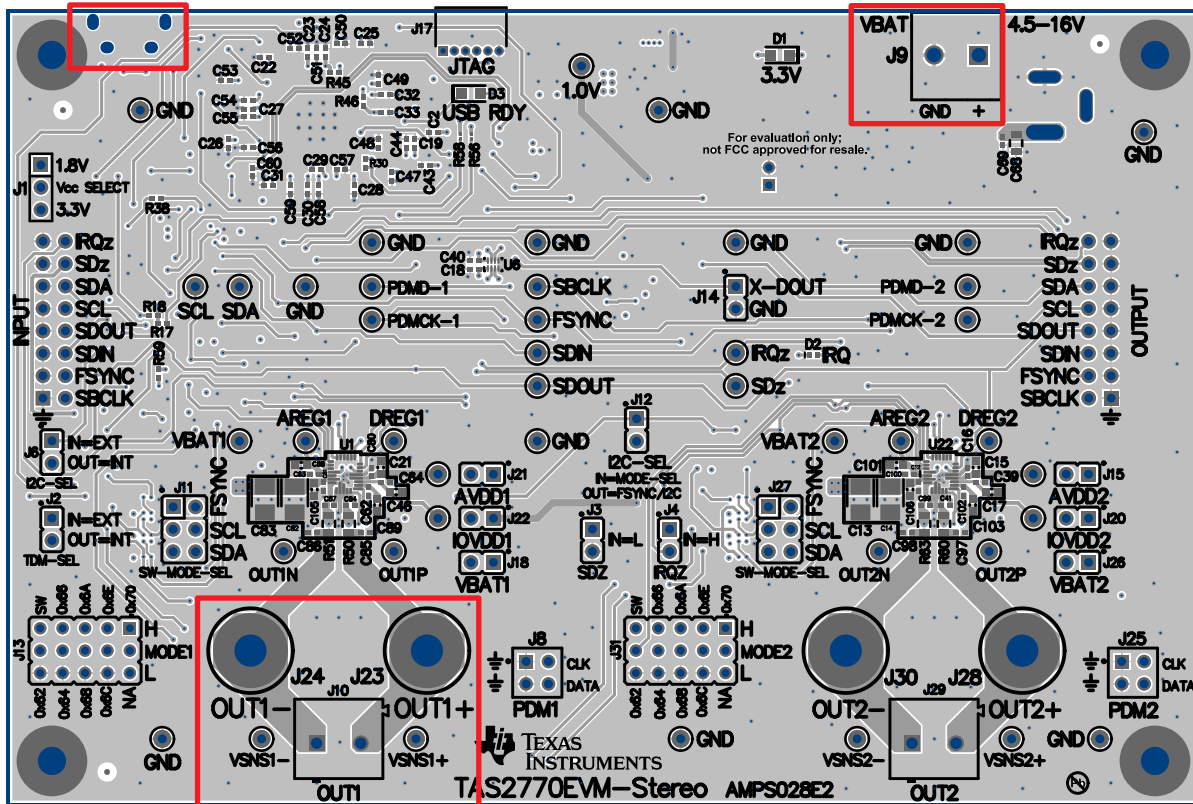

図 6. TAS2770EVM-STEREO Mono Configuration
2. Connect the first speaker to J10 on the EVM (see Figure 6). Alternatively, J23 and J24 can be used for speaker connections.